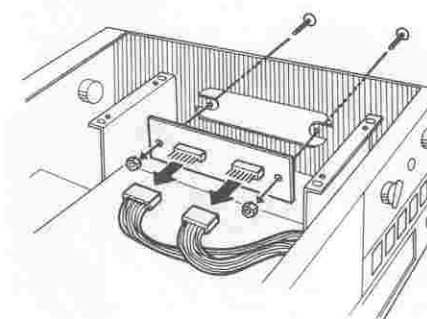

Fig. 3 Remove the Dummy P.C. Board
- Remove the dummy printed-circuit board shown in Fig. 3 by removing two screws